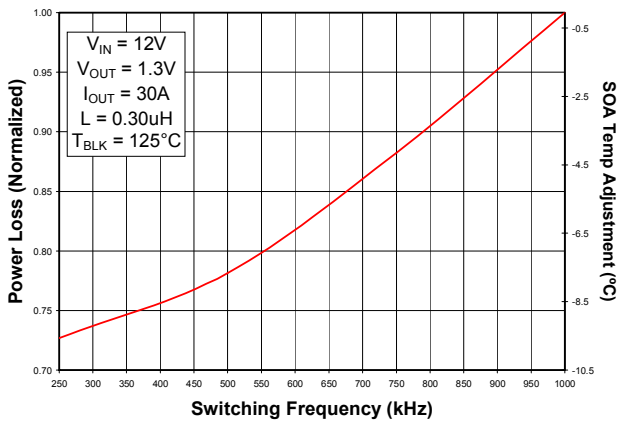

Fig. 5: Normalized Power Loss vs. Frequency
- (Fig. 5) Normalized power loss for frequency ≈ 0.95
- (Fig. 5) Normalized SOA Temperature for frequency $\approx -1.8^\circ\text{C}$